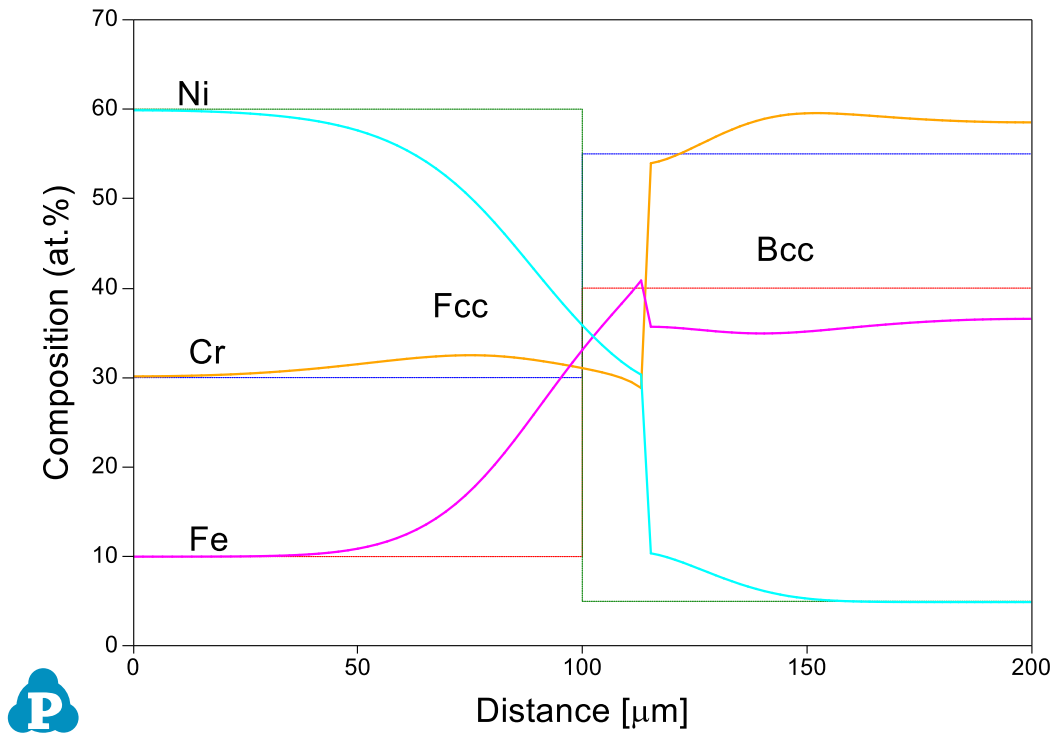

Figure 4.4.2: Calculated composition profiles at 300 hours
- The calculated plot is shown in Figure 4.4.2;